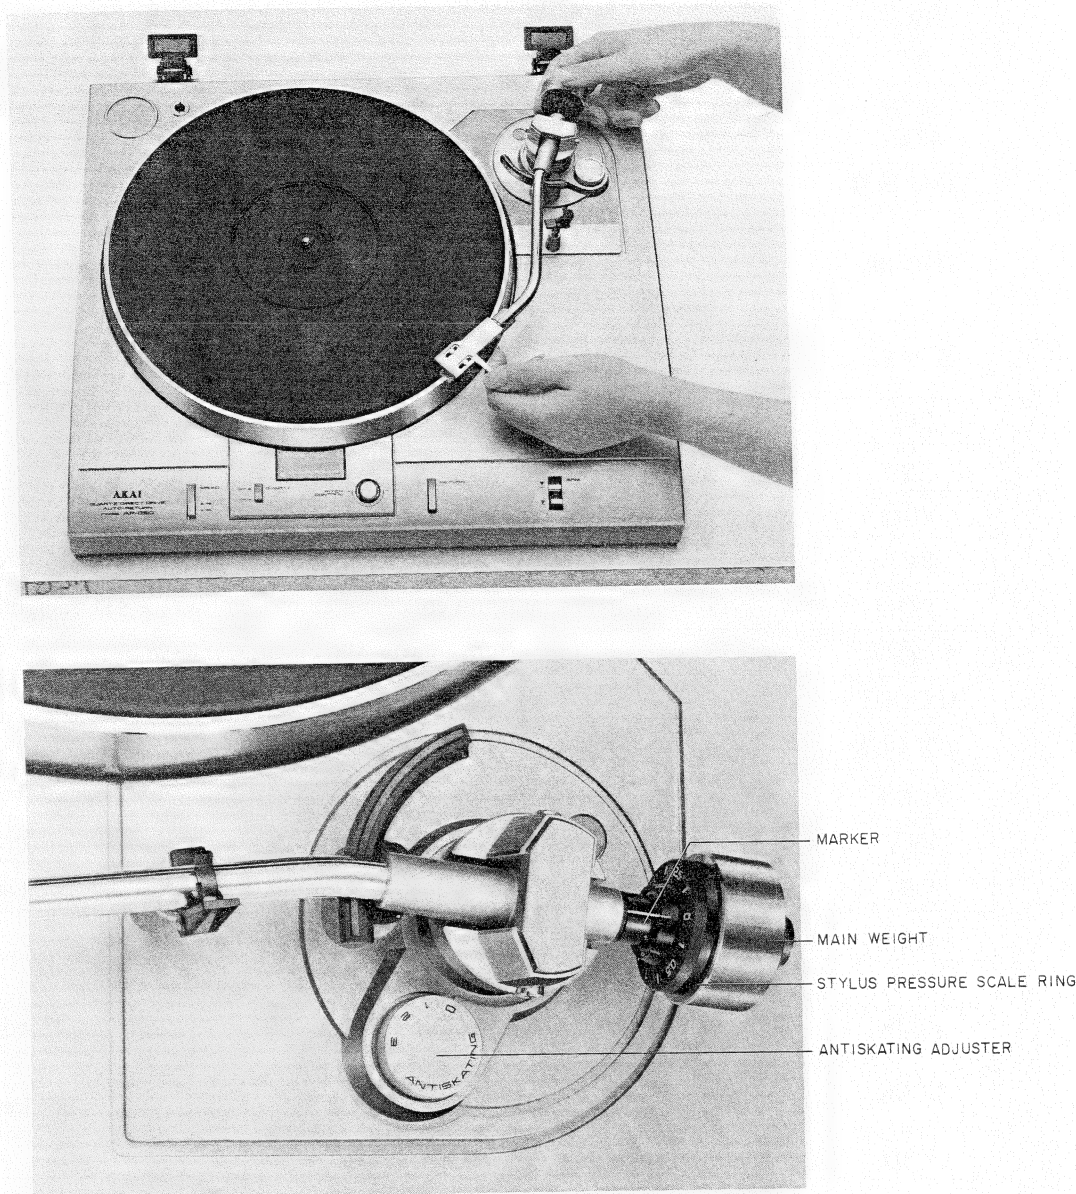

Fig. 13 Stylus Pressure Adjustment
5. Without moving the Main Weight, turn only the Stylus Pressure Scale Ring to match the "0" mark with the marker on the weight shaft. (Refer to Fig. 13)